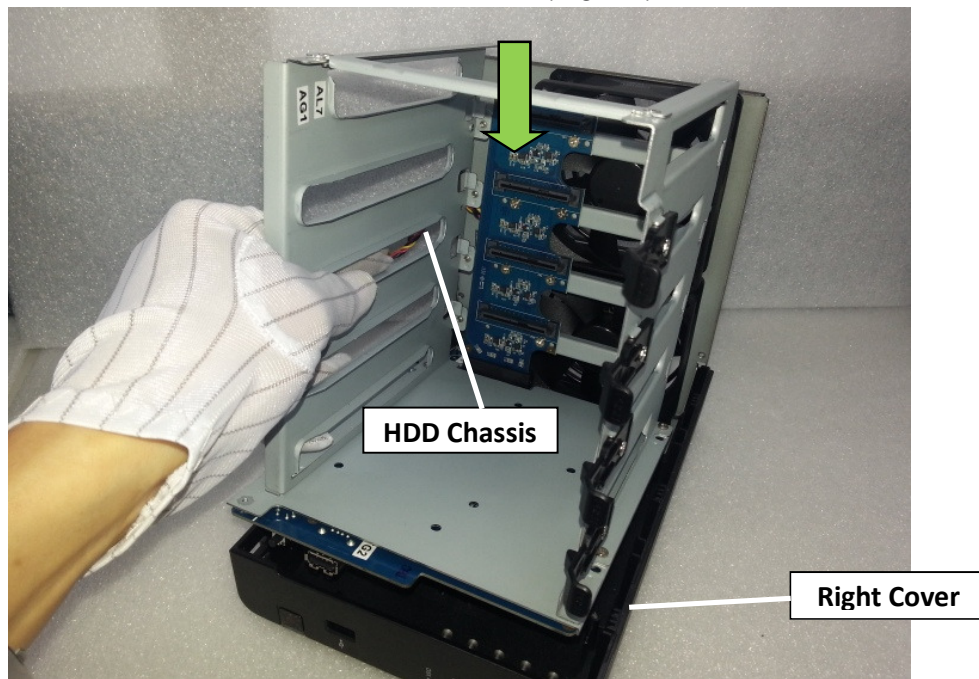

Fig. 28
2.2.3 Restore the HDD chassis into the enclosure. (Fig. 28)